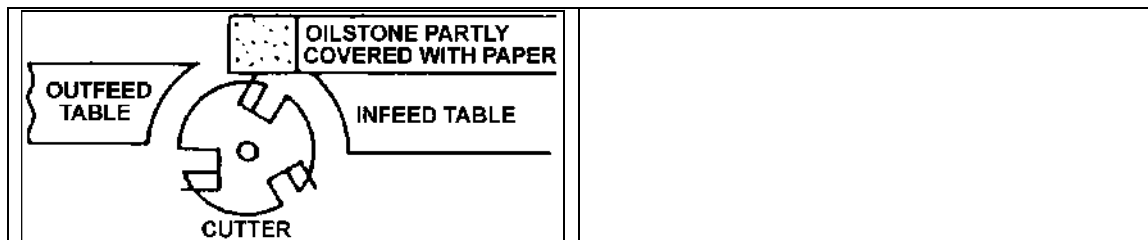

Figure 24
3. To protect the infeed table from scratches, partially cover the sharpening stone with paper (Figure 24).